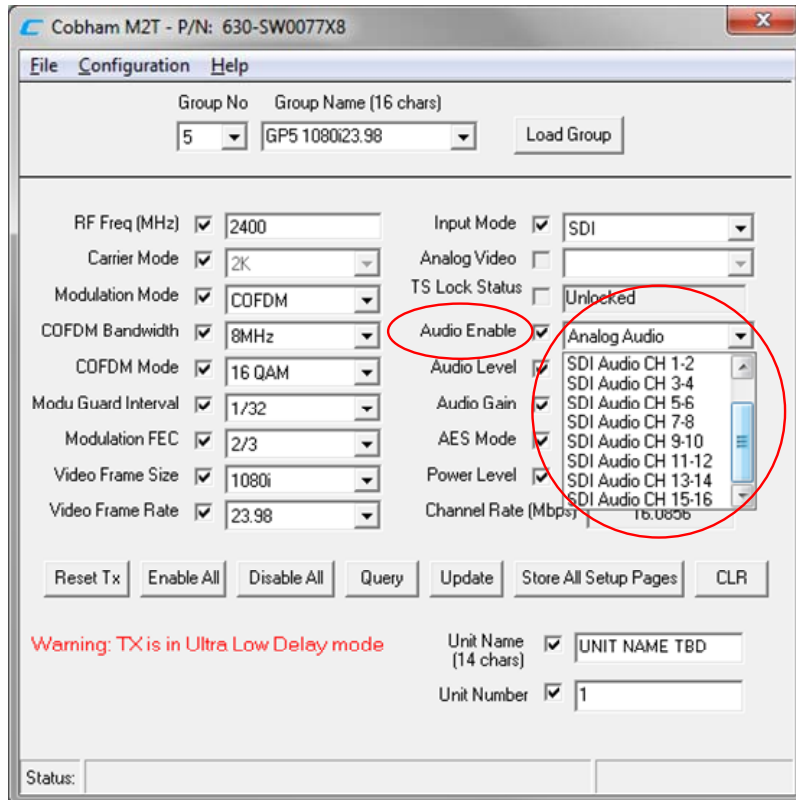

Figure 19 – Audio Selection
- SDI CH 1-2 to SDI CH 15-16 (see Figure 19 below)